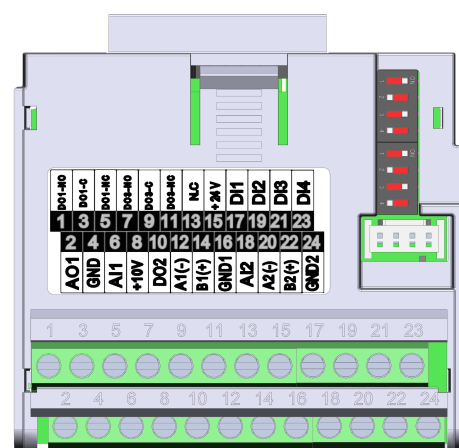

Figure 19.4: Plug-in module MW500-CRS485
The MW500-CRS485 plug-in module has Serial (1) interface through RS-485 port at terminals 12 (A-) and 14 (B+), as well as the Serial (2) interface through another RS-485 port at terminals 20 (A2+) and 22 (B2+), see Figure 19.4 on page 17-2. See also, GND1 on terminal 16 and GND2 on terminal 24 are isolated each other and from GND on terminal 16.